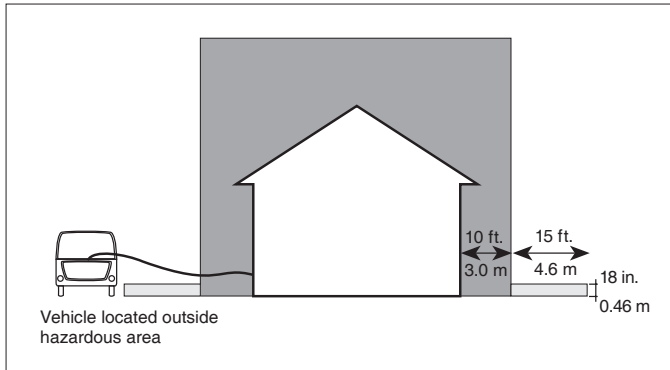

Figure 7 – Vehicle location
1. Class I, Division 1 (Zone 1), within the building. Refer to Figure 7 and 8, page 6.
2. Class I, Division 2 (Zone 2), up to 10 ft (3 m) from the building in any direction. Refer to Figure 7 and 8, page 6.
3. Class I, Division 2 (Zone 2), between 10 ft (3 m) and 25 ft (7.6 m) from the building in all directions at an elevation of 18" (0.45 m) above the ground. Refer to Figure 7 and 8, page 6.